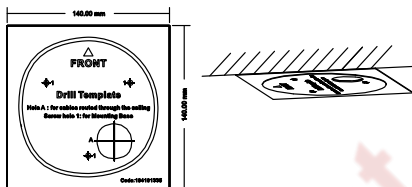

Figure 2-42 Attach the Drill Template
2. Drill a cable hole in the ceiling according to the circle A on the template if you want to route the cables through the ceiling, as shown in Figure 2-42.